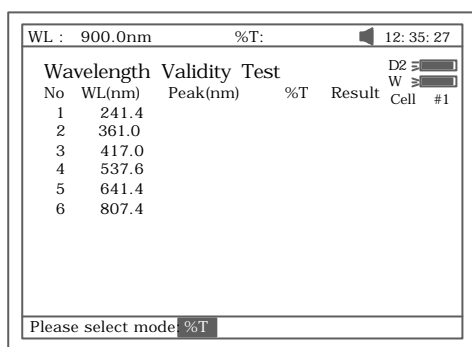

Fig 97
2. Press **【F2】** to select test mode (Abs or %T, Fig 97).